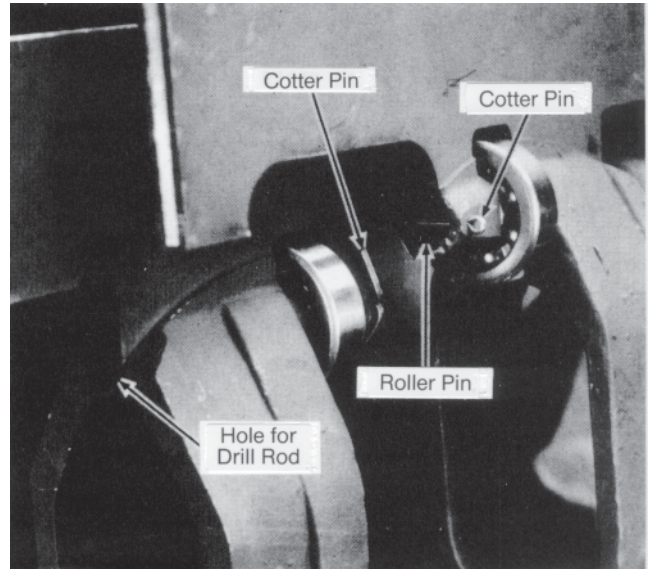

Figure 34 –Bearing Fastener Detail
14. If blade bearings need replacement, removal is accomplished as follows, Figure 34.